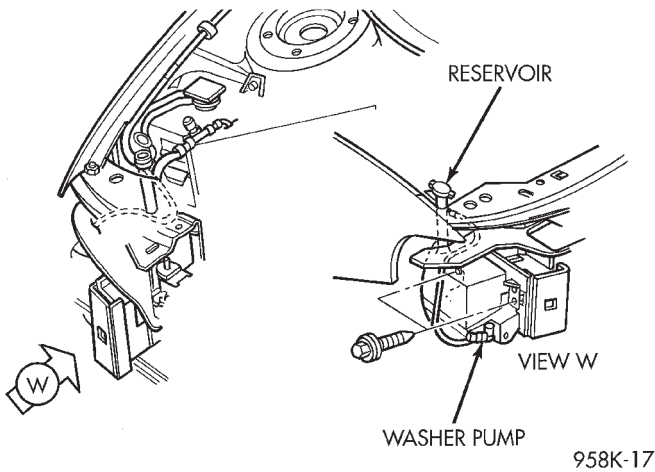

Fig. 12 Reservoir Removal
- (1) Disconnect washer fluid hose at in-line connector on top of the right shock tower.
- (2) Partially remove bumper fascia as needed to gain access to the reservoir. Refer to Group 23, Body.
- (3) Remove carbon canister.
- (4) Disconnect wire connector from washer pump and harness mounting tab (Fig. 12).
- (5) Slide rearward and drop down and away from vehicle.
- (6) Drain washer fluid from reservoir into an appropriate container.
- (7) Disconnect the washer hose from the reservoir.